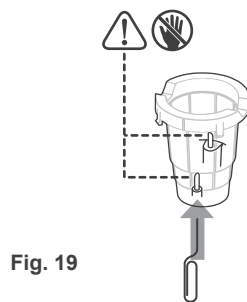

Fig. 19
3. If the two bottom Needles are clogged, then use a paper clip or tooth brush to clean the Needles, and rinse with warm water. (Fig. 19)
CAUTION: There is a sharp Needle underneath the Cover and two sharp Needles inside the Red Cup Holder. To avoid risk of injury and do not put your fingers in the Red Cup Holder. (Fig. 19)